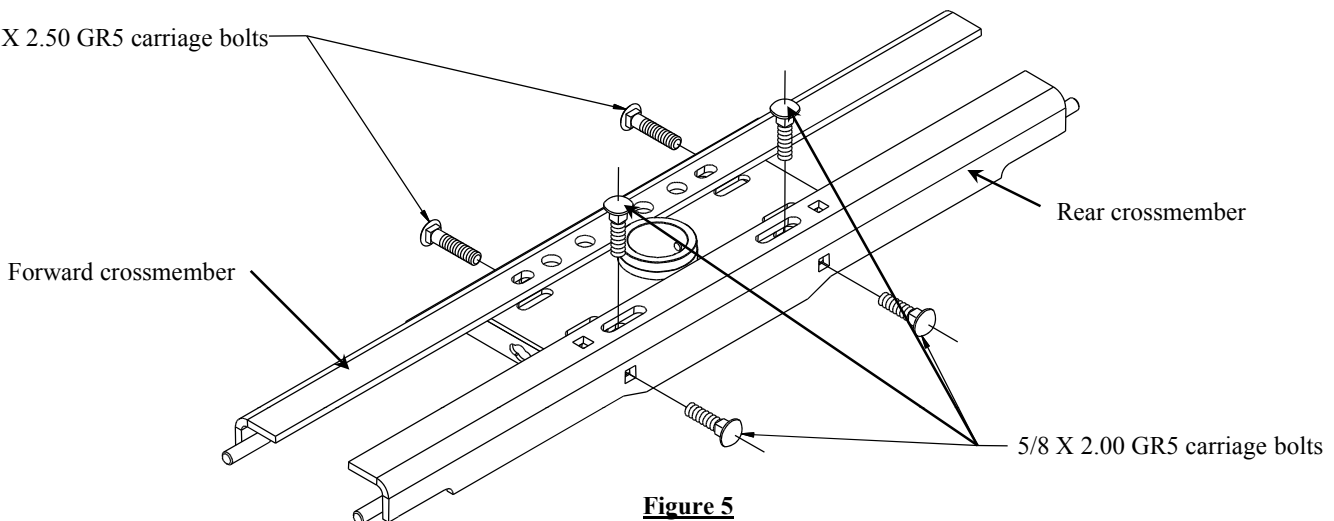

Figure 5
- Insert the 5/8 X 2.00 GR8 carriage bolts through the square holes in the vertical leg of the rearward crossmember and loosely install the 5/8 conical toothed washers and 5/8 hex nuts (see figure 5 below).